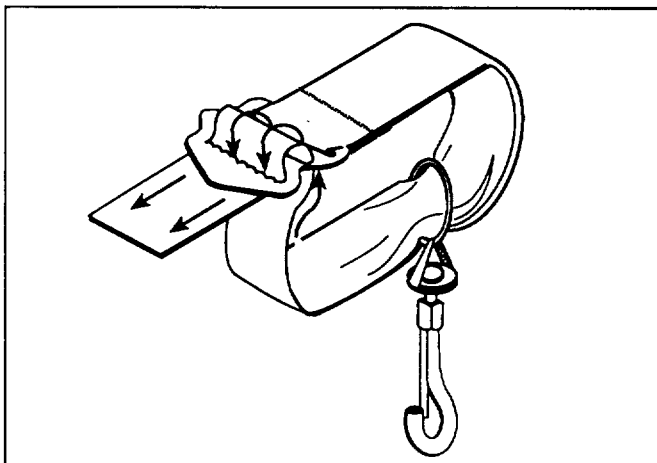

Fig. 2
2. Loop the strap through the buckle (Fig. 2).